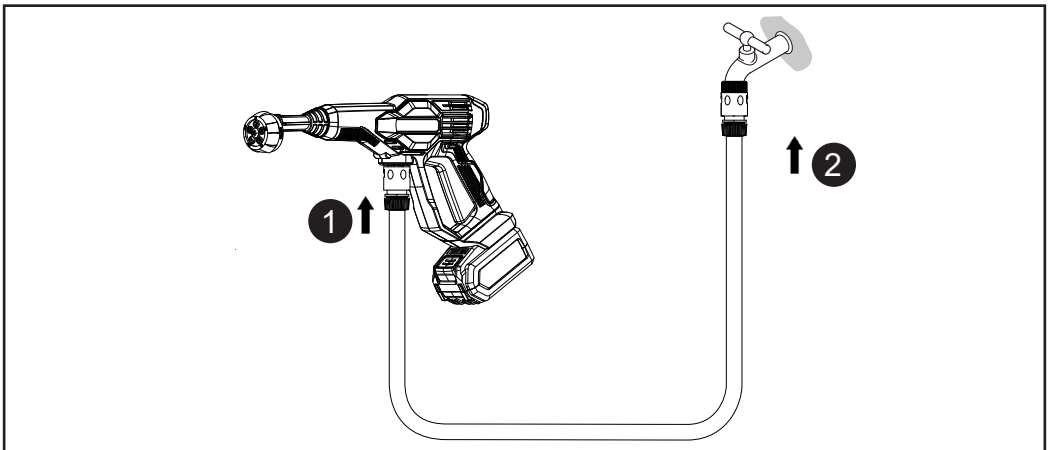

Fig. 7
1. Carefully remove the filter with valve opener (5) from the suction hose (6) (Fig. 7).